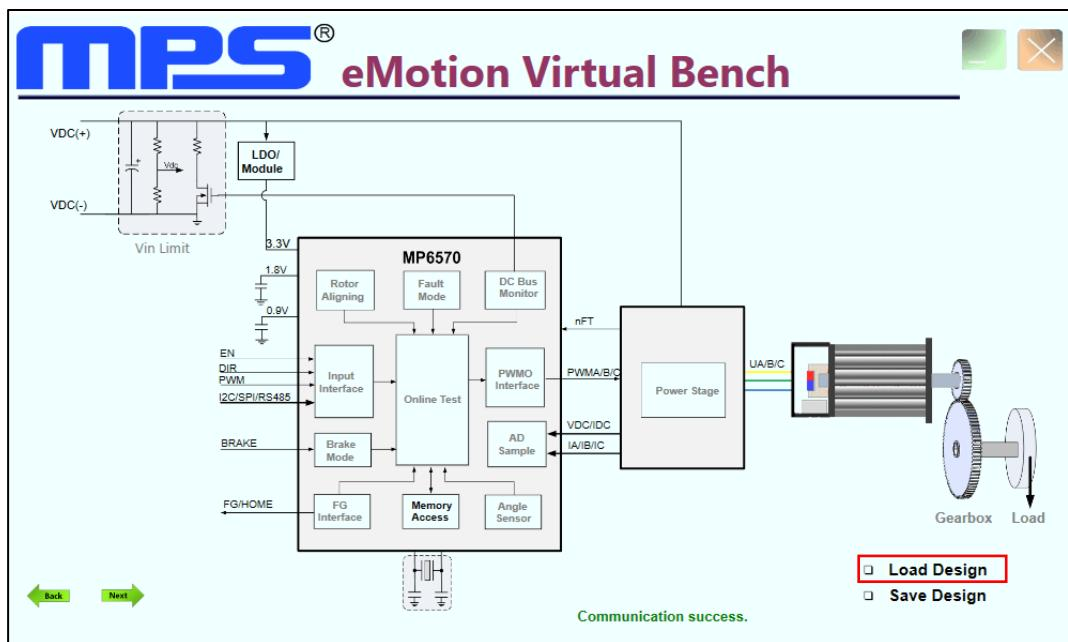

**Figure 7: Connection Status**
- If the connection is unsuccessful, the connection status will be listed as “USB device unconnected” or “Communication failed” in red (see Figure 7). Check the connections between the EVB, communication interface, and PC or re-plug the USB into the computer.